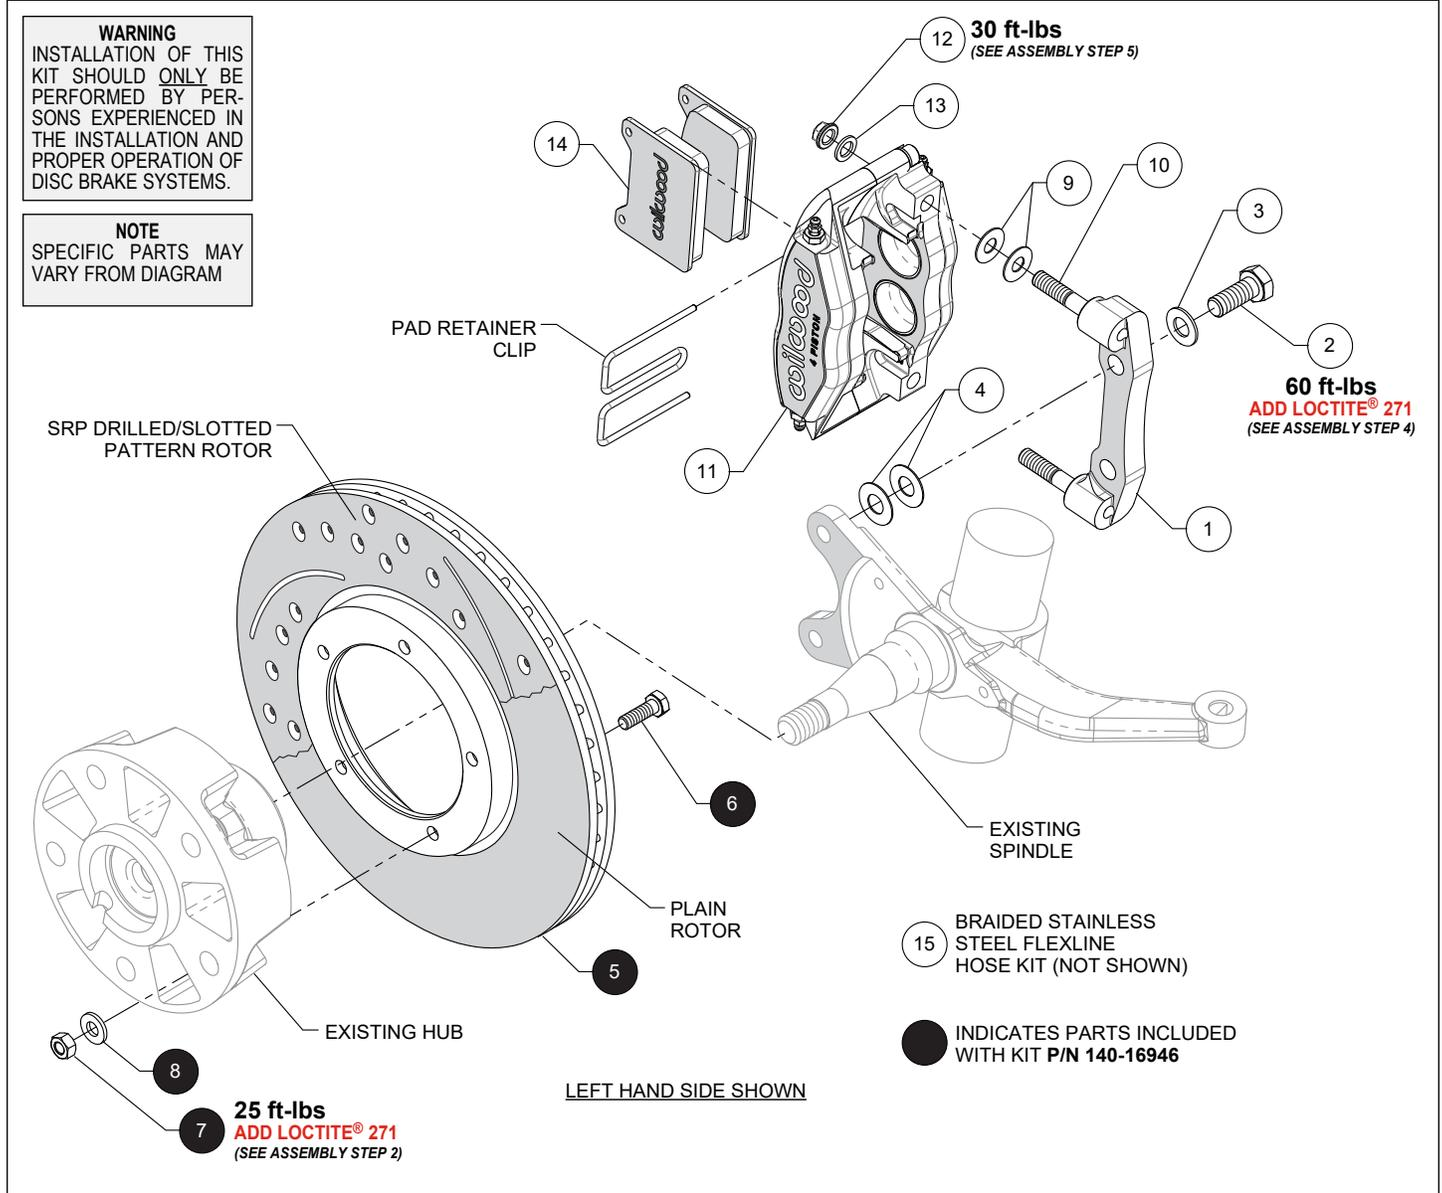

Figure 1. Typical Installation Configuration
NOTE: Numbers in parenthesis refer to the parts list and Figure 1 on the preceding pages.
STEP 1 The caliper mount bracket (1) should initially be installed with clean, dry threads on the mounting bolts. Orient the bracket, as shown in Figure 1 and Photo 1, and install using bolts (2) and washers (3). Initially place two .033" thick shims (4) on each bolt between the bracket (1) and upright, Figure 1 and Photo 2 (see arrows). Temporarily tighten the mounting bolts. **NOTE:** The bracket must fit squarely against the mount bosses on the upright. Inspect for interference from casting irregularities, machining ridges, burrs, etc. Later, after the caliper alignment has been checked, the mount bolts will be secured using red Loctite® 271.
STEP 2 For kit 140-16946, orient the Wilwood rotor (5) and the existing OEM hub as shown in Figure 1 and Photo 3. Attach rotor to hub assembly using bolts (6), nuts (7), and washers (8). Apply red Loctite® 271 to the bolt threads, and torque nuts to value shown in Figure 1 using a criss-cross pattern.
STEP 3 Slide the hub/rotor assembly onto the spindle, Figure 1. Secure using existing nut and adjust bearings per OEM specifications.
STEP 4 Initially place two .035" thick shims (9) on each stud (10) between the caliper (11) and the bracket (1), as shown in Figure 1 and Photo 4. Mount the caliper (11) onto the bracket (1) using lock nuts (12) and washers (13), Figure 1. Temporarily tighten the lock nuts. View the rotor through the top opening of the caliper. The rotor should be centered in the caliper, Photo 5. If not, adjust by adding or subtracting shims (4) between the bracket and the upright. Always use the same amount of shims on each of the two mounting bolts. Once the caliper alignment is correct, remove the bracket mounting
bolts (2) one at a time, apply red *Loctite*® 271 to the threads, and torque to value shown in Figure 1.
STEP 5 Remove the pad retainer clip from the caliper. Insert the brake pads (14) into the caliper, with the friction material facing the rotor. Check that the top of the brake pad is flush with the outside diameter of the rotor, Photo 6. If not, adjust by adding or subtracting shims (9) to the stud (10) between the caliper (11) and the caliper mount bracket (1). After the caliper pad height is set, torque the caliper lock nuts (12) to value shown in Figure 1. Secure the brake pads in place with the pad retainer clip, Photo 7.